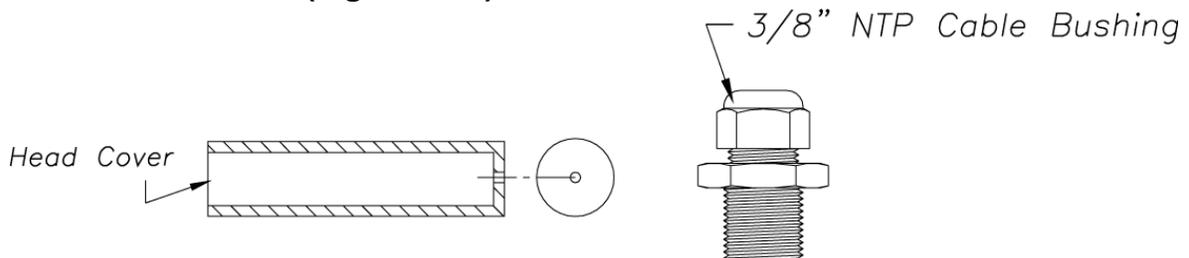
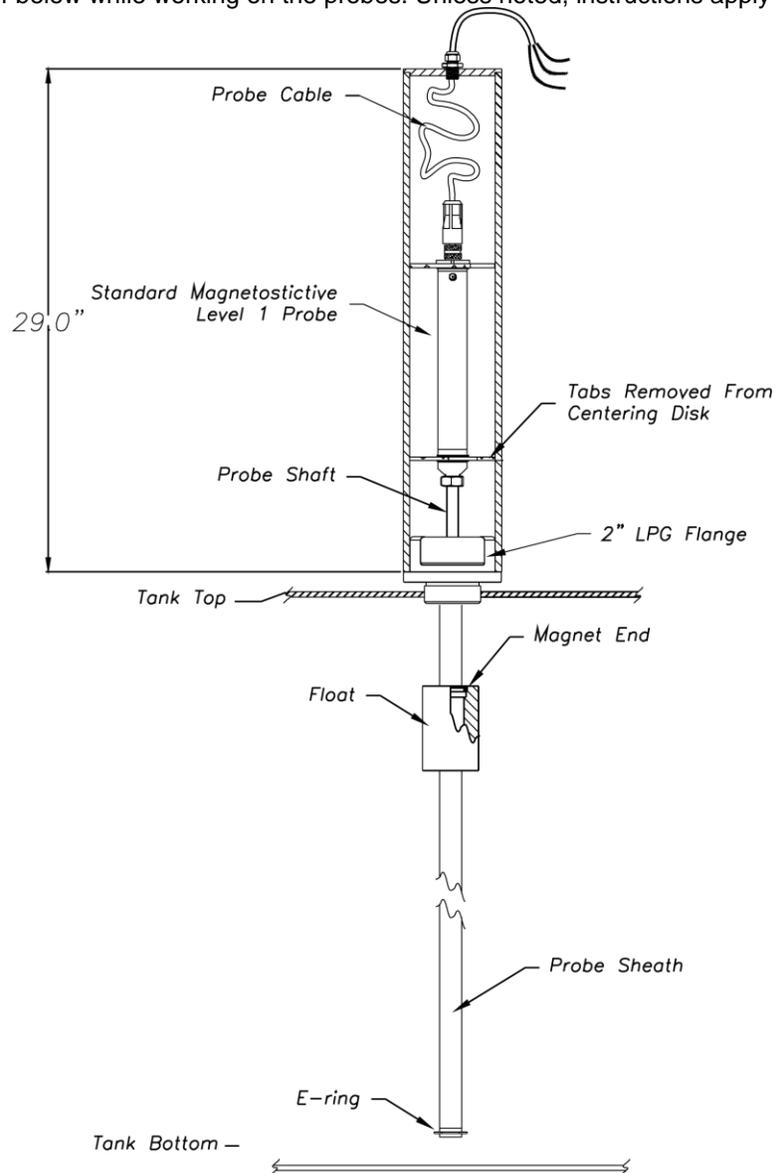

Figure 24-3 30-1512 Head Cover Kit Contents
Figure 24-4 Probe Assembly and Installation Overview
24.2.1 Head Cover Kit (Figure 24-3) Contents
Refer to Figure 24-4 below while working on the probes. Unless noted, instructions apply to both probe types.
The probe head must be covered. Purchase a cover from OPW, order part number 30-1512 (Figure 24-3 on page 92). You can cut the cover for clearance, but make sure you leave room for connections and cable (Figure 24-4 on page 93).